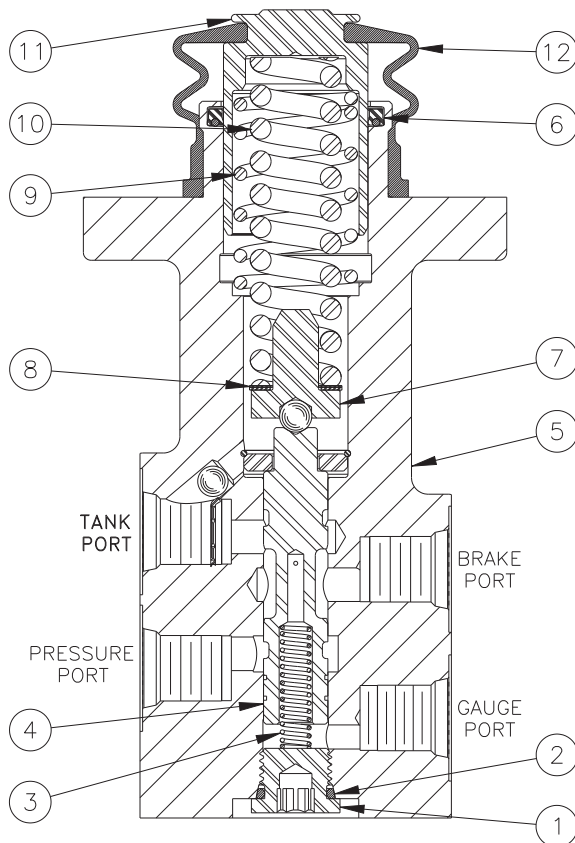

FIGURE 7
(Refer to Figures 7 and 8)
Installation and test note: Piston (11) in Figure 7 & 8 must be retained mechanically. This will prevent it from blowing out at high velocity if an incorrect connection occurs from power source to tank port. **Be sure the tank port is connected to tank.** Failure to do this could result in serious injury or death.